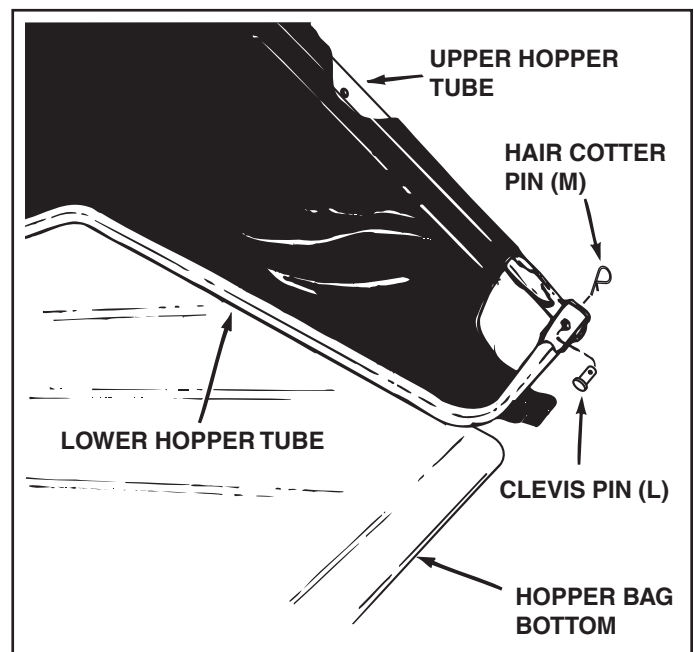

FIGURE 12
STEP 14: (SEE FIGURE 12)
- Attach the ends of the lower hopper tubes to the **inside** of the upper hopper tubes using two clevis pins (L) inserted from the inside, and two hair cotter pins (M).